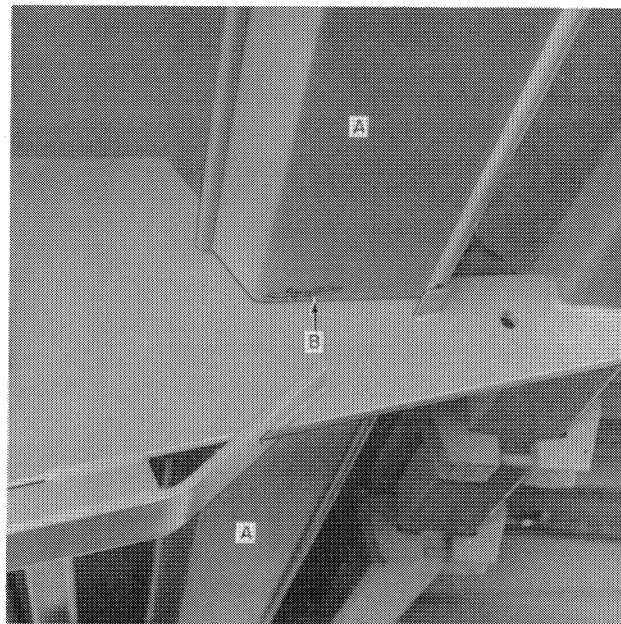
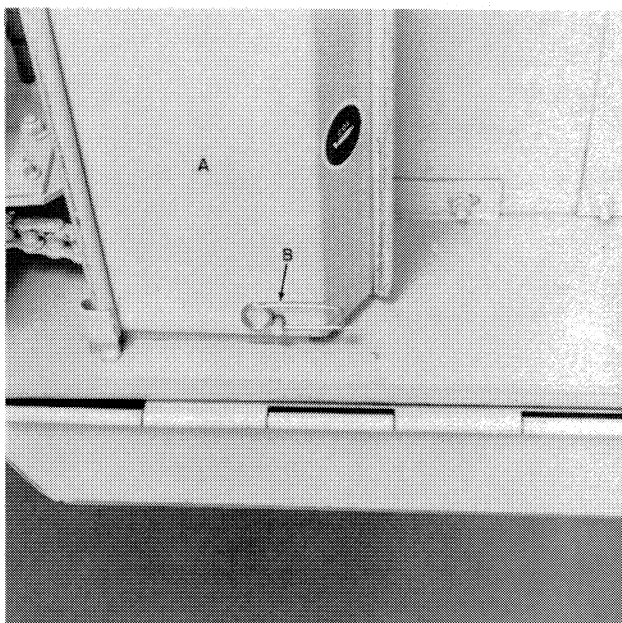

Figure 2-2
Figure 2-3
4. Remove the row unit drive shaft shields, A, Figure 2-2, by removing a hairpin cotter, B, or safety pin, B, Figure 2-3, at each end of the shield.
4. Remove the row unit drive shaft shield, A, Figure 2-3, by removing safety pin, B, at each end of the shield.